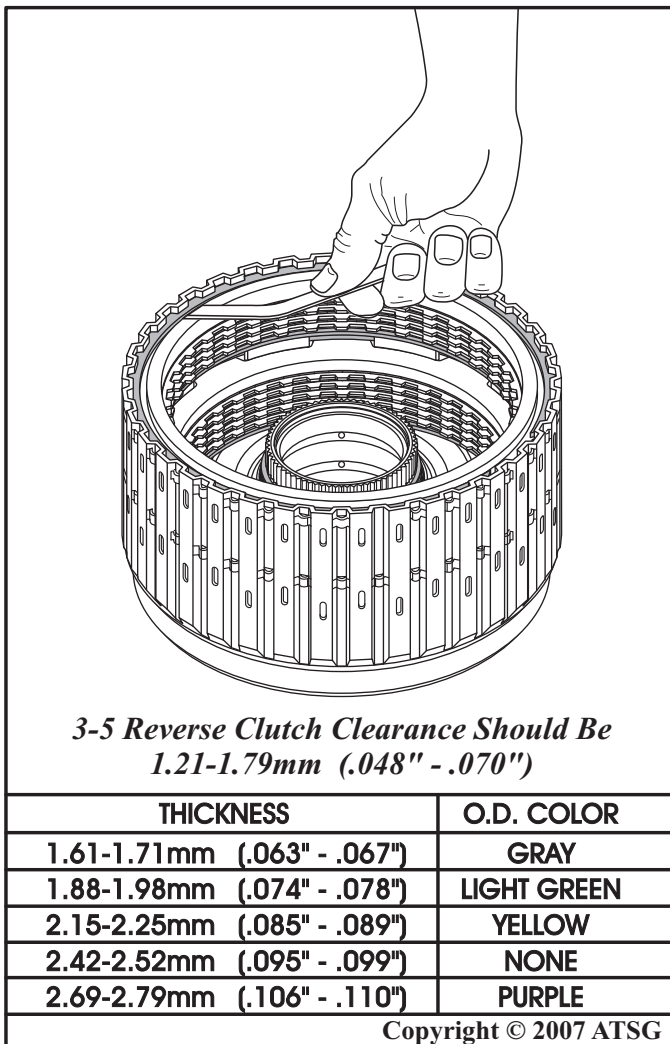

Figure 103
34. Check the 3-5 reverse clutch clearance using a feeler gage between the snap ring and backing plate, as shown in Figure 103.
36. Change the selective snap ring as necessary using the chart in Figure 103 to obtain correct clutch clearance.